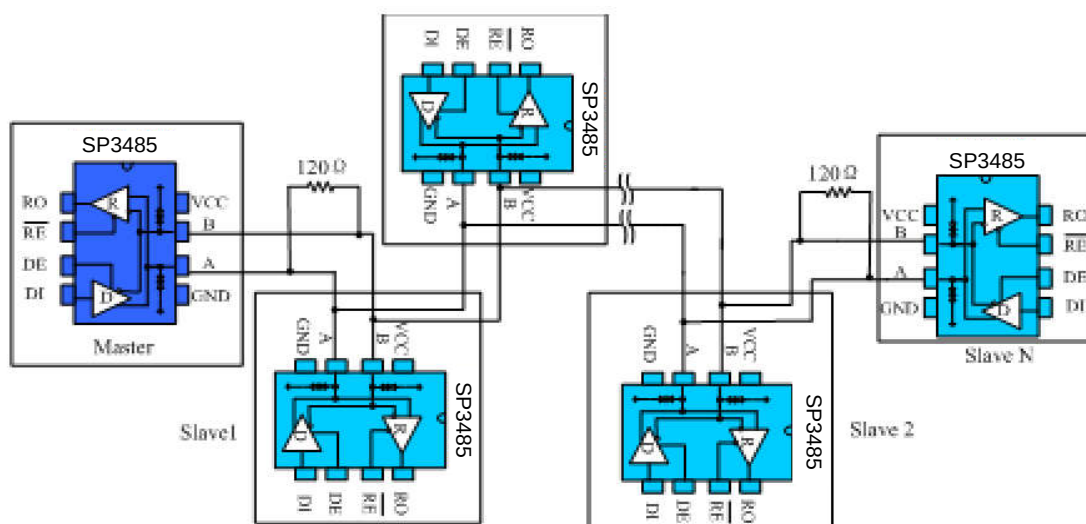

Fig. 10 Hand-in-hand type RS485 half-duplex communication network
**4.2 Hand-in-hand networking:** Also known as daisy chain topology, it is the standard and specification of RS485 bus wiring, and is the recommended RS485 bus topology for organizations such as TIA. The wiring mode is that the master device and multiple slave devices form a hand-in-hand connection with no branch left, as shown in Figure 10. This wiring method has the advantages of small signal reflection and high communication success rate.